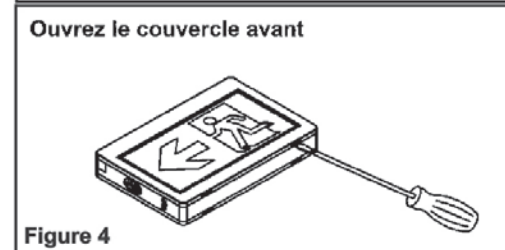

Figure 4
2. Using a flat head screwdriver, insert the blade into the two slots and pry off the front cover (see figure 4).